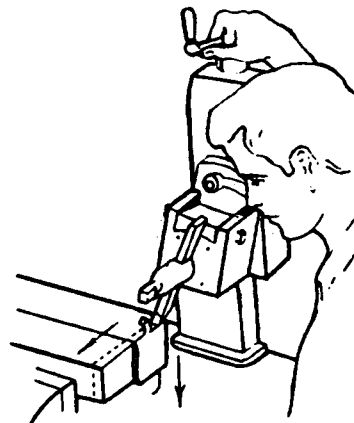

Fig. 5
- d) Machine using the manual feed (Fig. 5).